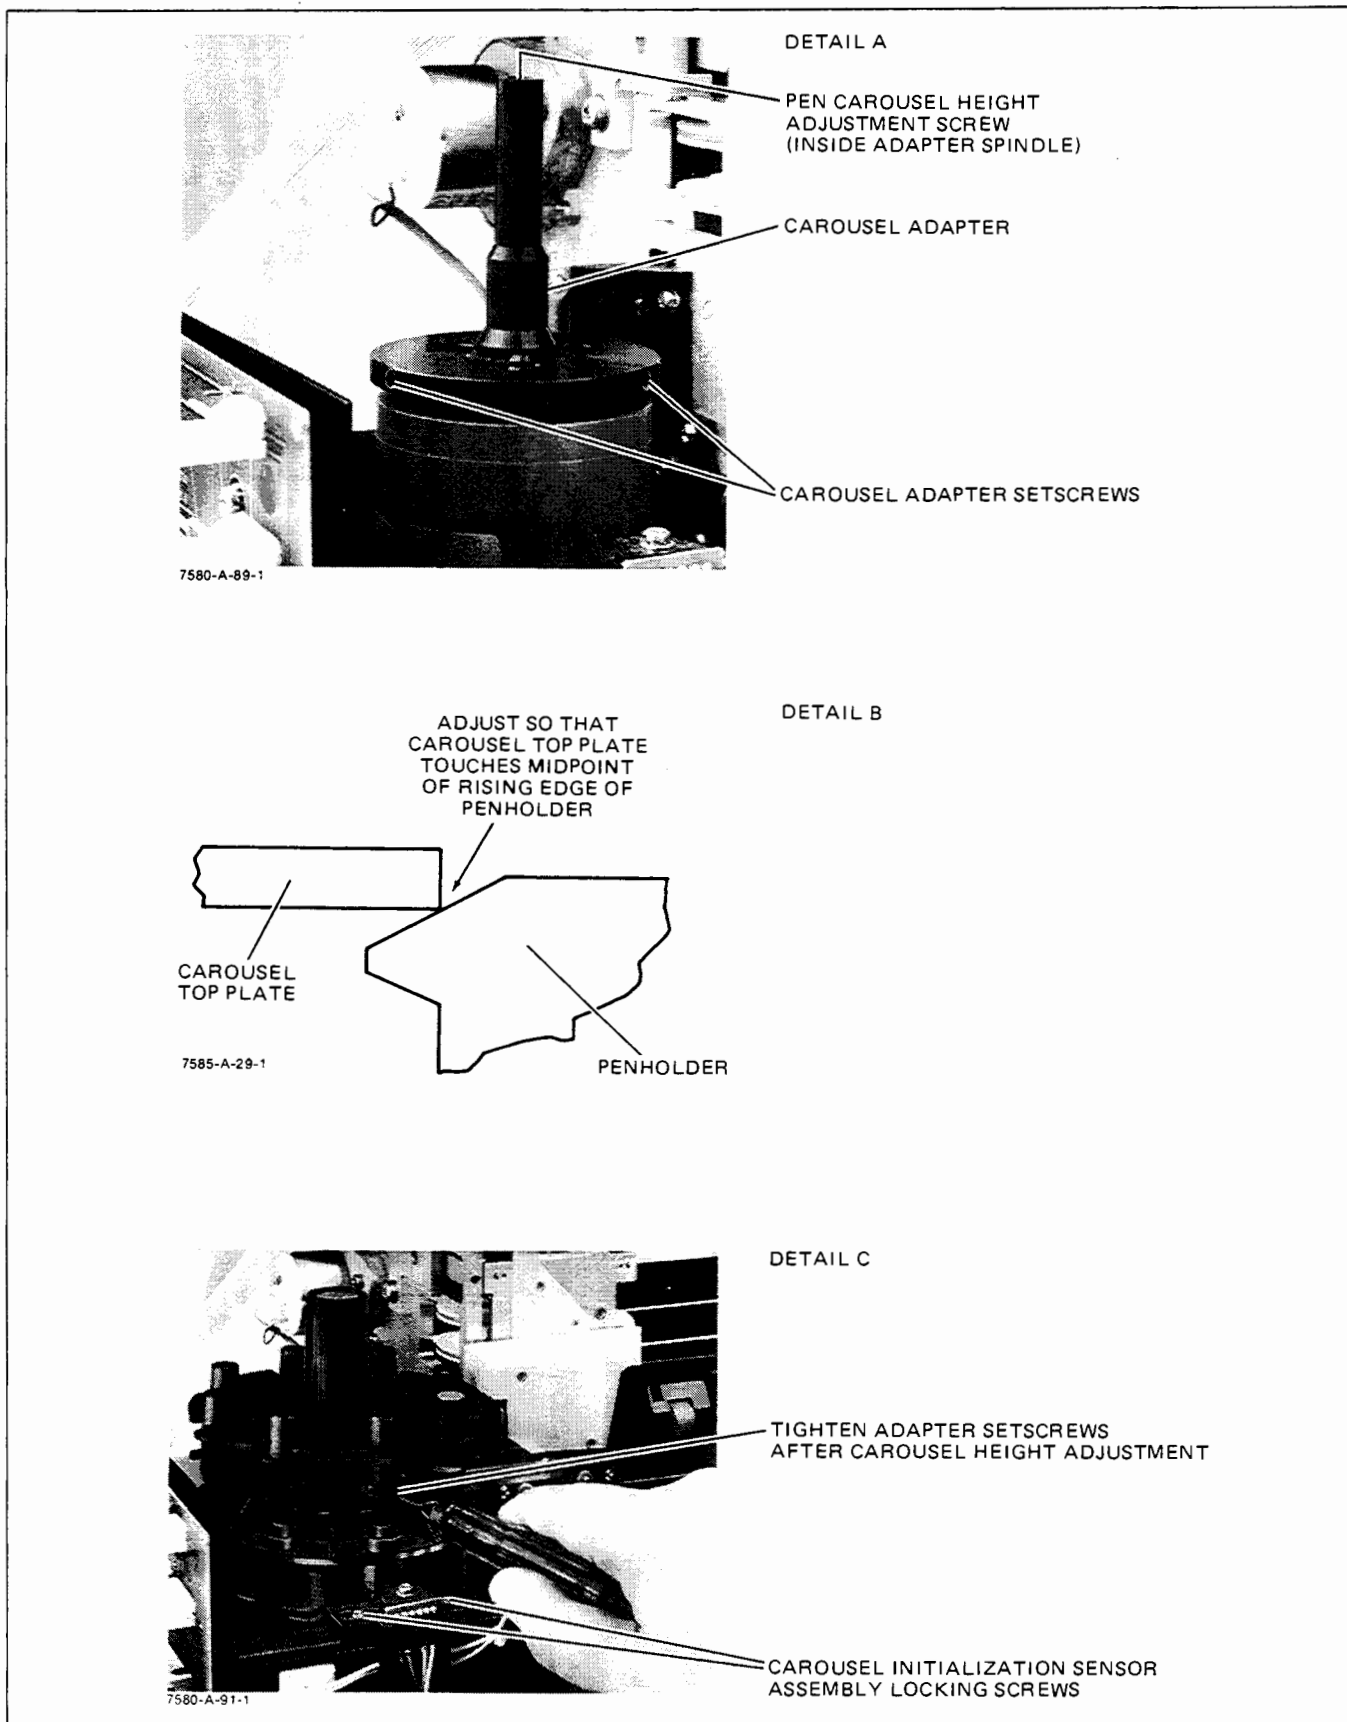

Figure 3-16. Pen Carousel Height and Initialization Sensor Adjustments
- c. Remove the pen carousel and loosen the two pen carousel adaptor setscrews. See Figure 3-16, Detail A.
- l. Manually move the pen holder into the carousel until the pen holder *just* touches the carousel top plate. See Figure 3-16, Detail B.
- m. The bottom surface of the carousel top plate should touch the penholder at approximately midpoint on the rising edge of the penholder. See Figure 3-16, Detail B. Rotate the adjustment screw in the pen carousel adaptor spindle clockwise (CW) to raise the adaptor or counterclockwise (CCW) to lower the adaptor. See Figure 3-16, Detail A.
- o. One of the two carousel adaptor setscrews should be accessible for tightening. If so, tighten the setscrew while keeping the carousel stationary. See Figure 3-16, Detail C. If neither of the setscrews is accessible, move the pen holder out of the stable, lift the carousel off the adaptor and rotate it 120° and reset on the adaptor. Then repeat step n. and step o.
- s. Loosen the two carousel initialization sensor assembly locking screws. See Figure 3-16, Detail C.